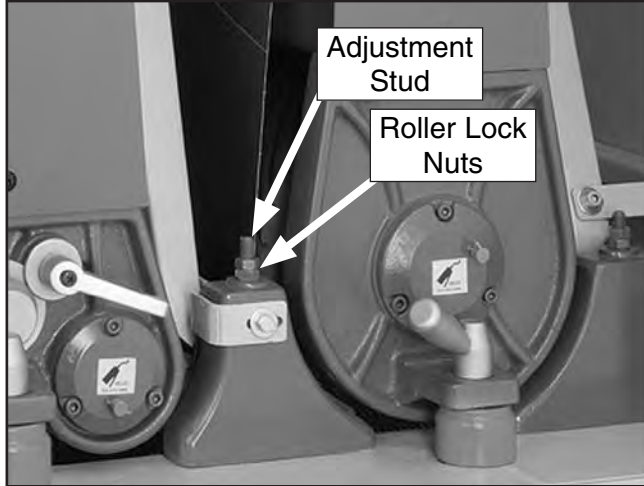

Figure 33. Pressure roller adjustment location.
- Loosen the roller lock nuts (**Figure 33**) on the infeed pressure roller. Turn the adjustment studs (**Figure 33**) to lower the pressure roller until it just touches the board.